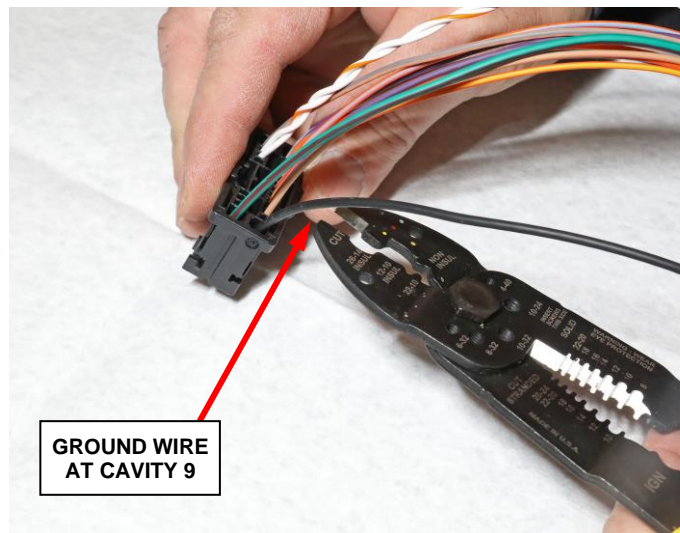

Figure 16 – 21-Pin Connector Terminal 9
- h. At the 21-pin PLGM harness connector, cut the wire from the back of the terminal at cavity 9 and seal it. The terminal is abandoned in place (Figure 16).